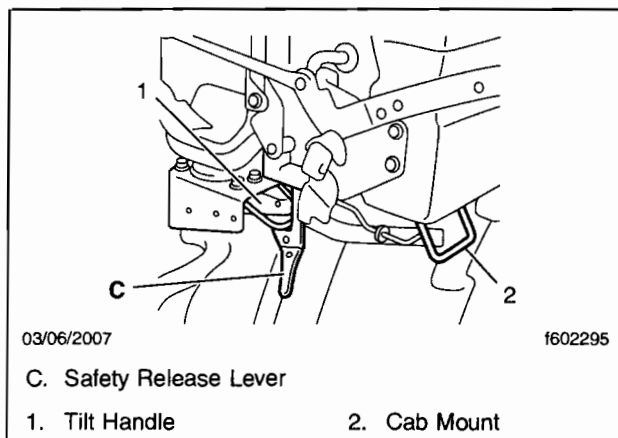

Fig. 7, Engaging the Safety Release Lever
- 3.3 Still holding the tilt handle, lower the cab until the hook on the safety release (lever C) engages with the cab mount. See **Fig. 7**.